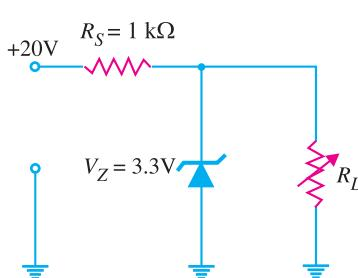

Fig. 17.32
2. The zener diode in Fig. 17.32 has values of  $I_{Z(min)} = 3$  mA and  $I_{Z(max)} = 100$  mA. What is the minimum allowable value of  $R_L$  ? [241  $\Omega$ ]